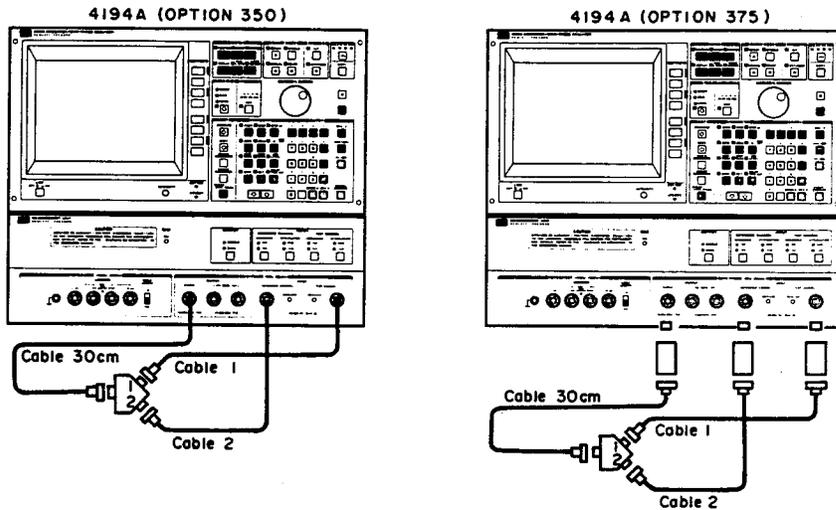

Figure 4-10. HP 11667A Tracking Error Calibration Setup 2
9. Reconnect cables 1 and 2 as shown in Figure 4-10 (cable 1 to the TEST CHANNEL; cable 2 to the REFERENCE CHANNEL).